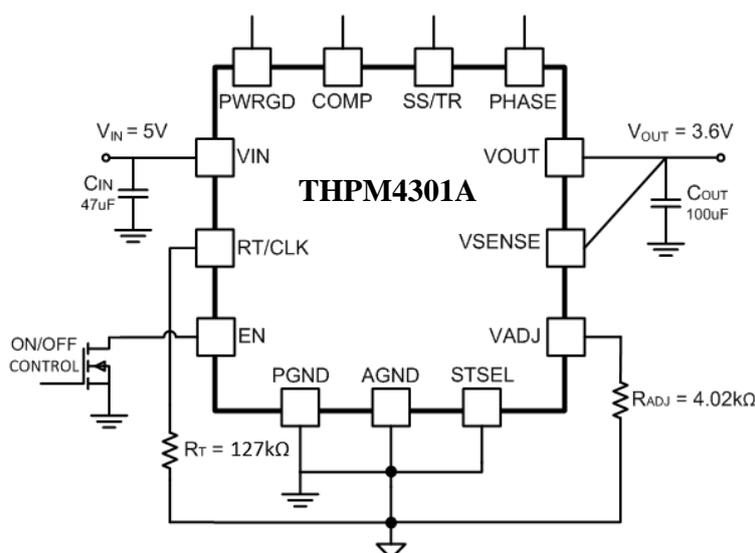

Fig. 23 Typical Schematic $V_{IN} = 4.4V$ to $6.0V$, $V_{OUT} = 3.6V$, $F_s = 750kHz$
Fig. 23 shows a typical schematic for a 5V input, 3.6V output application using THPM4301A. The adjustment resistor, R_{ADJ} , is selected as 4.02k Ω calculated based on Equation (1). In this example, the switching frequency is selected as 750kHz by connecting the timing resistor of 127k Ω between RT/CLK pin and AGND pin.